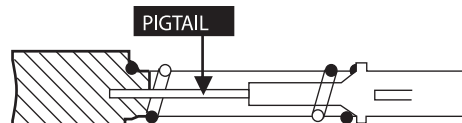

Figure 27: Brush Pigtail.
- b. If the brushes are excessively worn as to expose the pigtail (Figure 27), sparking will occur at the surface of the slip ring, causing surface damage. Therefore, periodic inspection of the brushes is important.